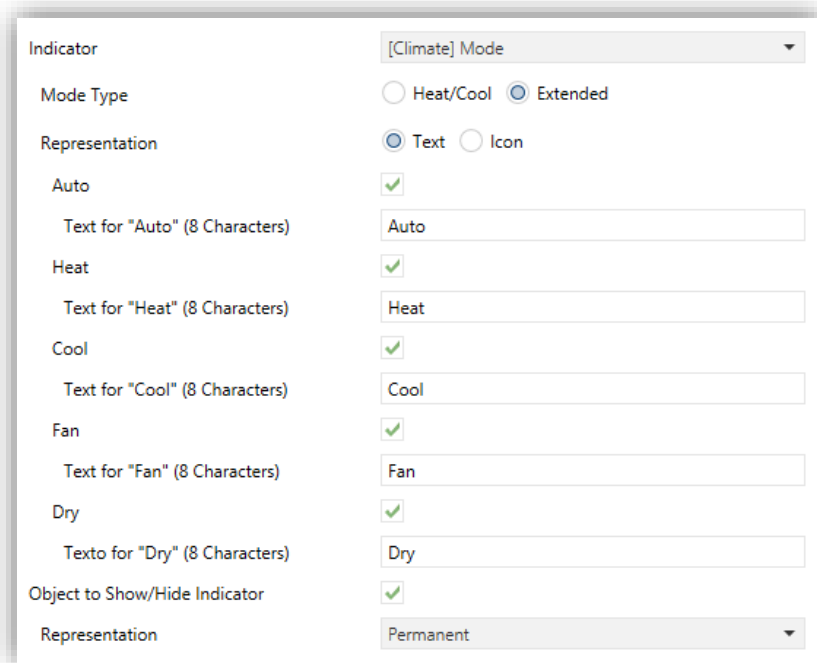

Figure 57. Display indicator – [Climate] Mode – Mode Type: Extended.
- **[Extended]**: the icon represented will depend on the value of the “[Disp] [BX] (Climate) Mode - Extended” one-byte object. When selecting this type, five checkboxes appear to select which HVAC modes should be available [Auto / Heat / Cool / Fan / Dry], as shown in Figure 57).